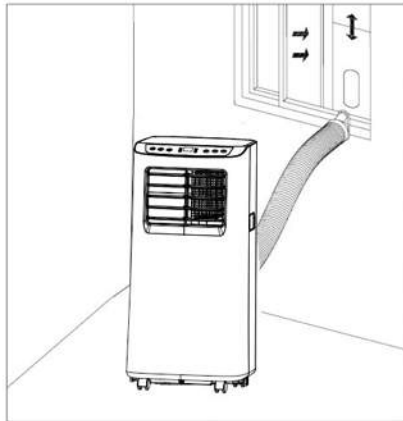
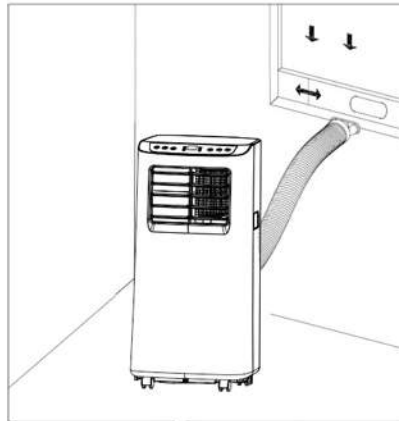

Figure 5
Figure 6
5.3.2 Elongate the exhaust pipe and snap the flat end of the exhaust pipe joints into the hole of the window sealing plate assembly (as shown in fig. 5 and fig. 6).